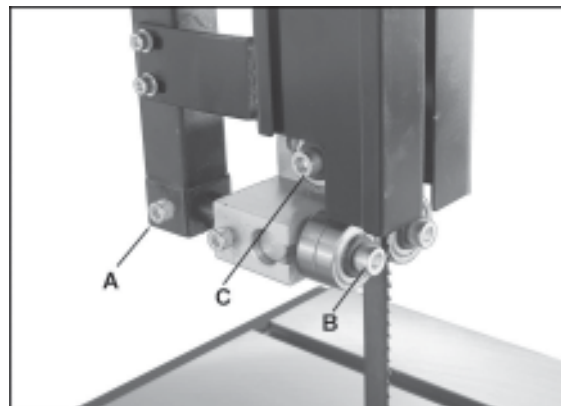

Figure 9
**Upper Guides:** To adjust the upper blade guides, first position the roller guides relative to the blade by loosening the locking hex screw (A--Fig. 9) and moving the guide carrier until the roller guides are approx. 1/16" behind the gullets of the blade. Next set the roller guides to within 1/32" of the blade by releasing the screw (B--Fig. 9) on each side of the blade. Do not set the guides too close, as this will adversely affect the life of the blade. Finally, adjust the thrust bearing to be just clear of the back of the blade by unlocking the hex nut (C--Fig. 9). When the correct adjustment is reached, lock the thrust bearing in position with the hex nut (A--Fig. 9).